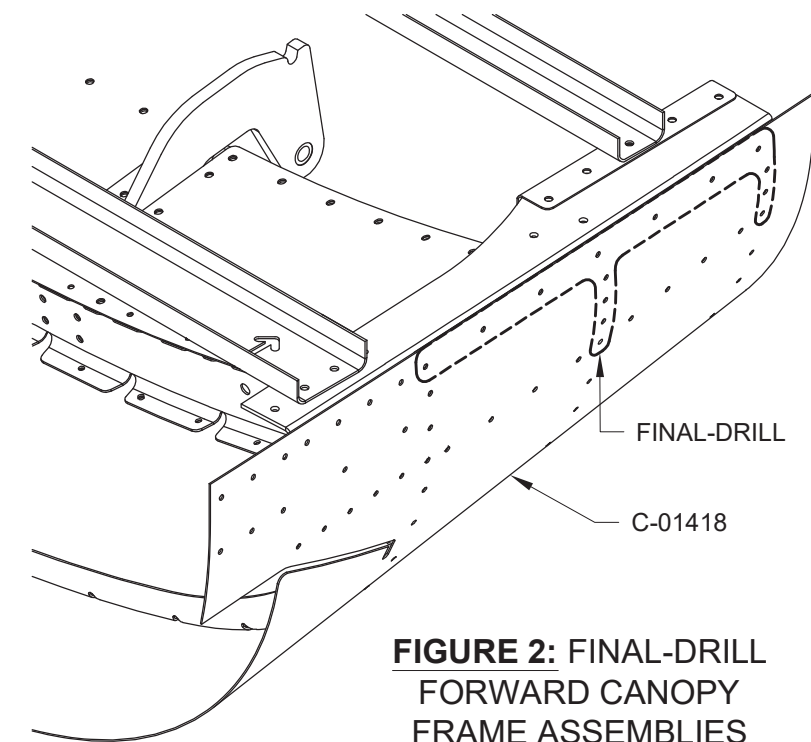

FIGURE 2: FINAL-DRILL FORWARD CANOPY FRAME ASSEMBLIES
Step 8: Final-Drill #40 the holes called-out in Figure 2. Re-cleco each hole as it is drilled.